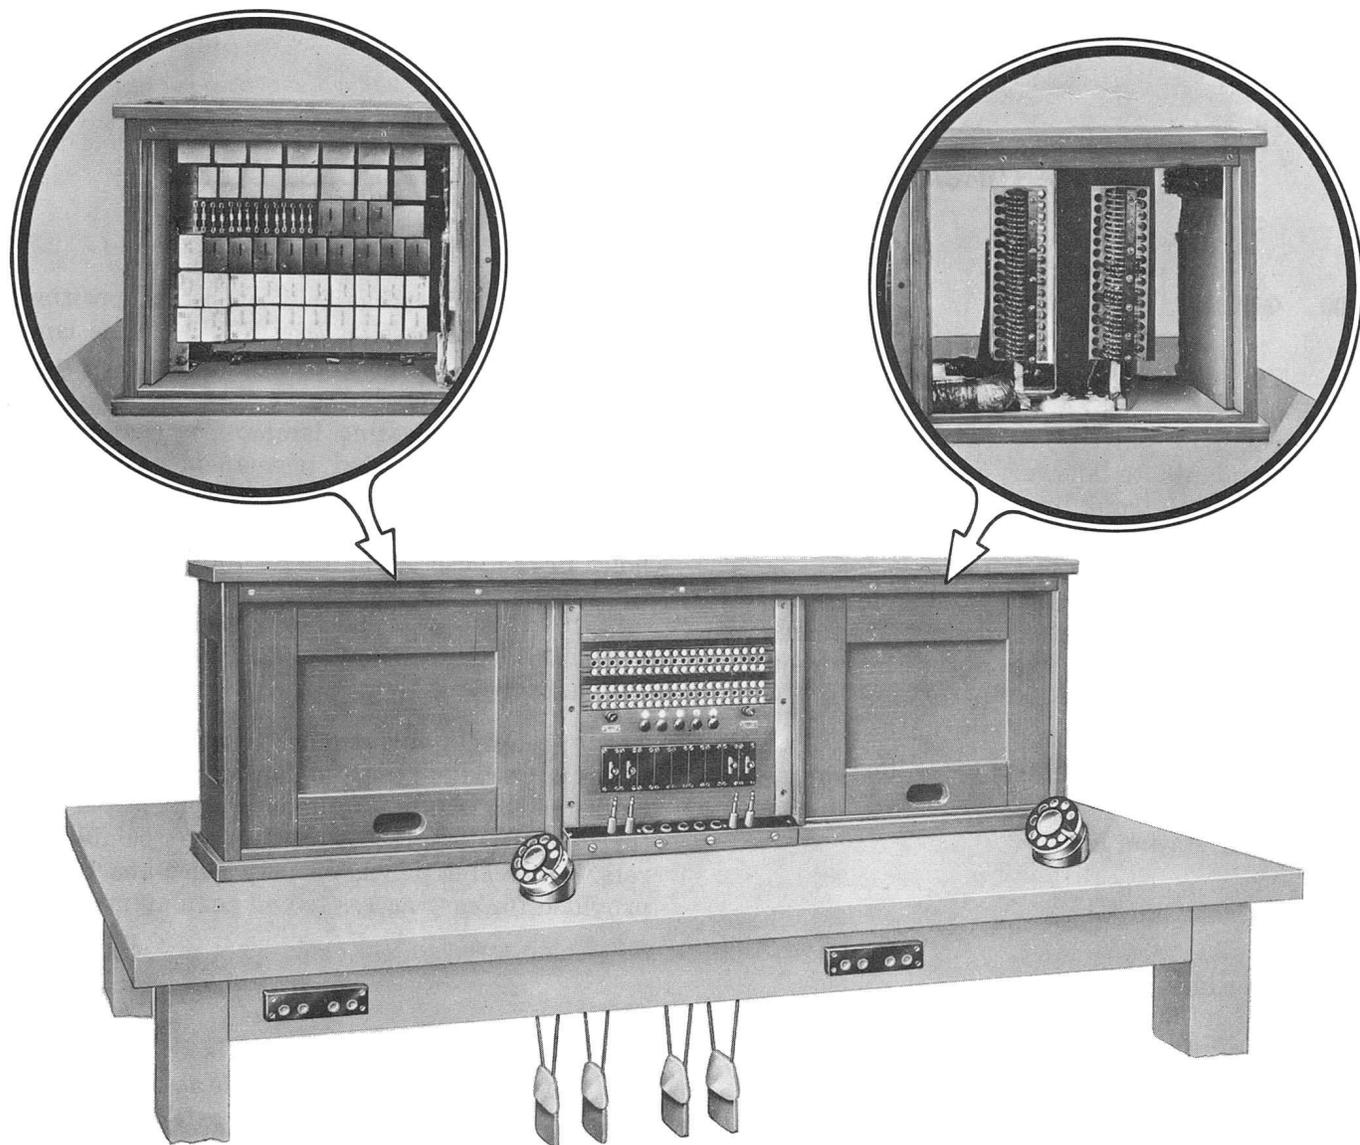

Fig. 1 — 2A Order Turret
**2.01** Each turret is a self-contained unit, housed in a wooden cabinet 4 feet long, 1 foot 3 inches high, and 1 foot 1 inch wide. The complete unit is mounted on a table or desk. (See Fig. 1.)
**5.06** At each attendant position, install a 30, 199A, or 201A jack mounting for connecting the attendant telephone set (see Fig. 1). For commercial tables having an apron, use 30 or 199A jack mounting. For special tables having no apron, use 201A jack mounting.